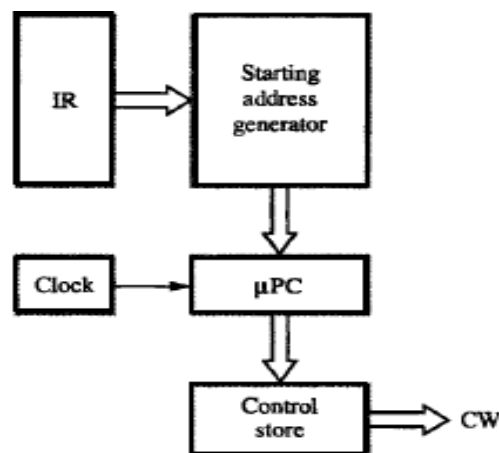

Figure 7.16 Basic organization of a microprogrammed control unit.
- Microprogramming is a method of control unit design (Figure 7.16).
- **Control Word (CW)** is a word whose individual bits represent various control-signals (like Add, PCin).